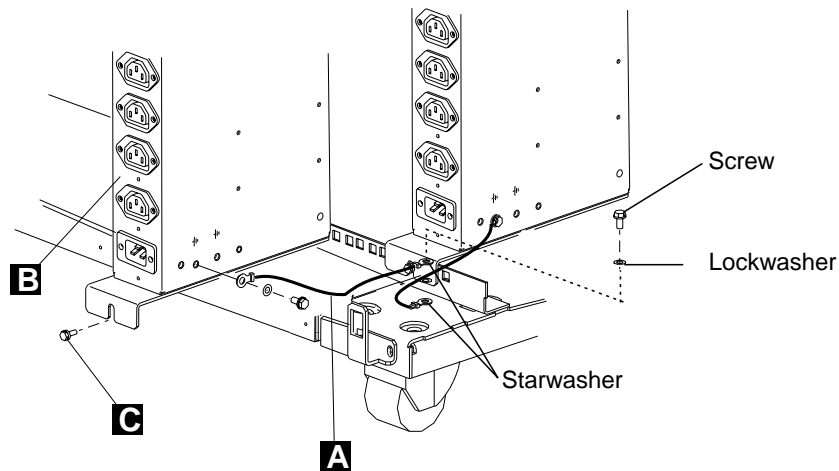

Figure 1-10. Installing the Captive Nuts
11. \_\_\_\_ Refer to Figure 1-10, using one lockwasher (PN 1622319), one starwasher (PN 1622347), and one screw (PN1673983), **connect** the ground jumper **A** (PN 63F2459) to the new ac outlet distribution box.